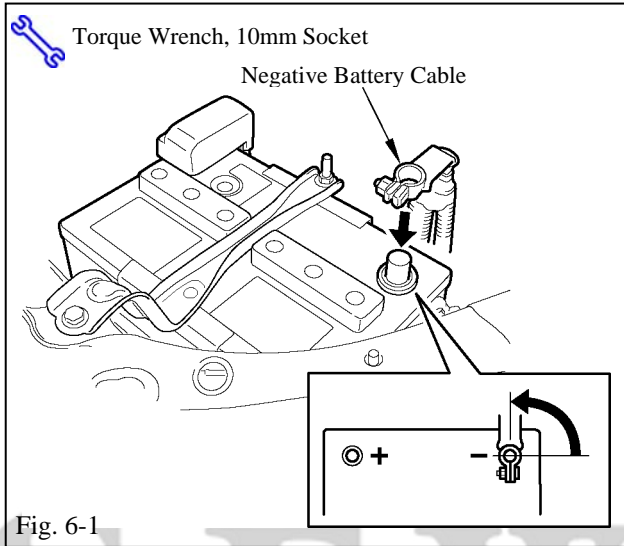

Fig. 6-1
- (1) Reconnect any disconnected connectors.
- (2) Verify the panels fit together properly with no uneven gaps between them.
- (3) When putting the rear seat mounting bolts back, tighten them to 37 N-m (27 lbs-ft).
- (c) Reconnect the vehicle's negative battery cable (Fig. 6-1).
- (1) Position the negative terminal at original factory position.
- (2) Tighten the nut to 4.1N•m (36 lbf•in).
- (3) Do not touch the positive terminal with any tool when replacing the cable.